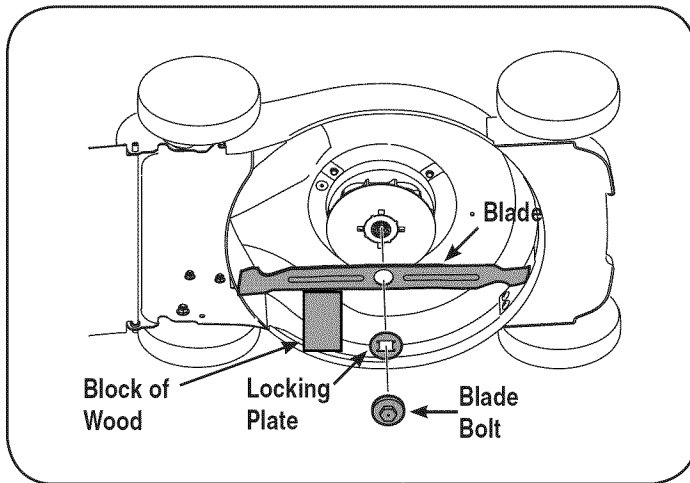

Figure 12
2. Place a 2x4 block of wood approximately 8.5" long between the deck housing and the cutting blade to act as a stabilizer. See Figure 12.
3. Loosen and remove the blade bolt, locking plate, and blade. See Figure 12.